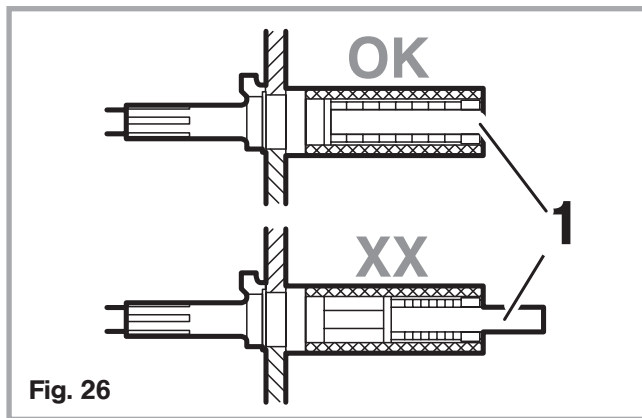

Fig. 26
- The control pin (1) on the master cylinder may not project out of the guide (red) (Fig. 26).